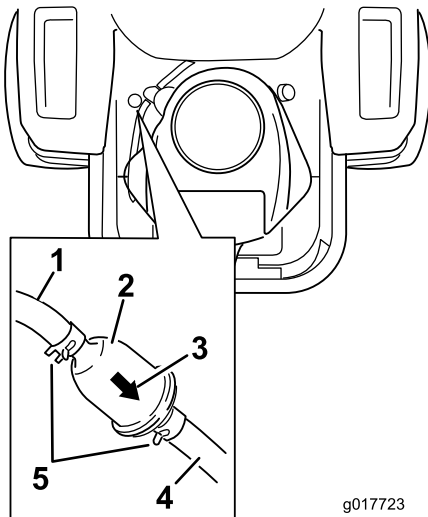

Figure 51
4. Raise the seat and locate the fuel filters as shown in Figure 51.
7. Install a new filter with the flow direction arrow coming from the fuel tank and pointing to the engine. Move the hose clamps close to the filter (Figure 51) to secure it in place.